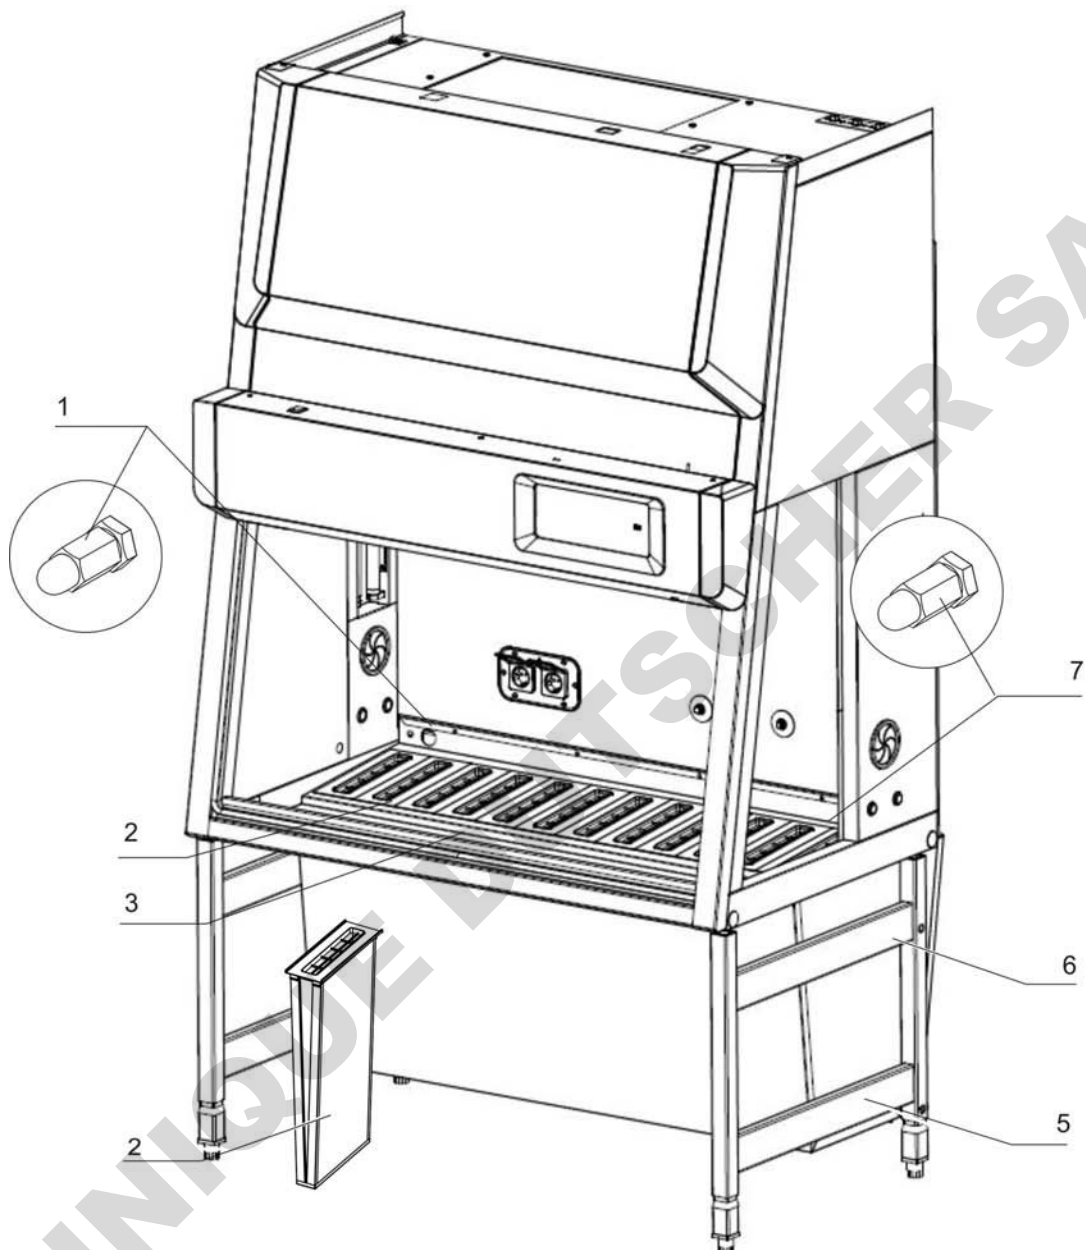

Figure 4 Overall View, Maxisafe 2030i version
- Figure 4: Stand [5] with built-in prefilter casing [6].